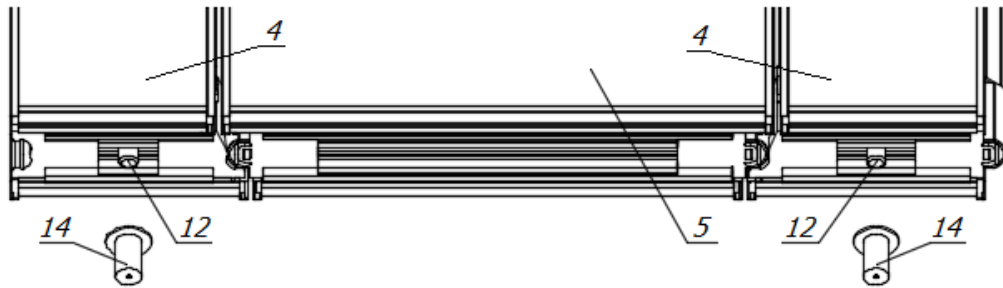

Fig.11. Correct positioning of the door panel when locking
Check whether the ends of the beams spreading **the door frame (12) HAVE FIT into the sockets in the floor (14) (Fig.11)**